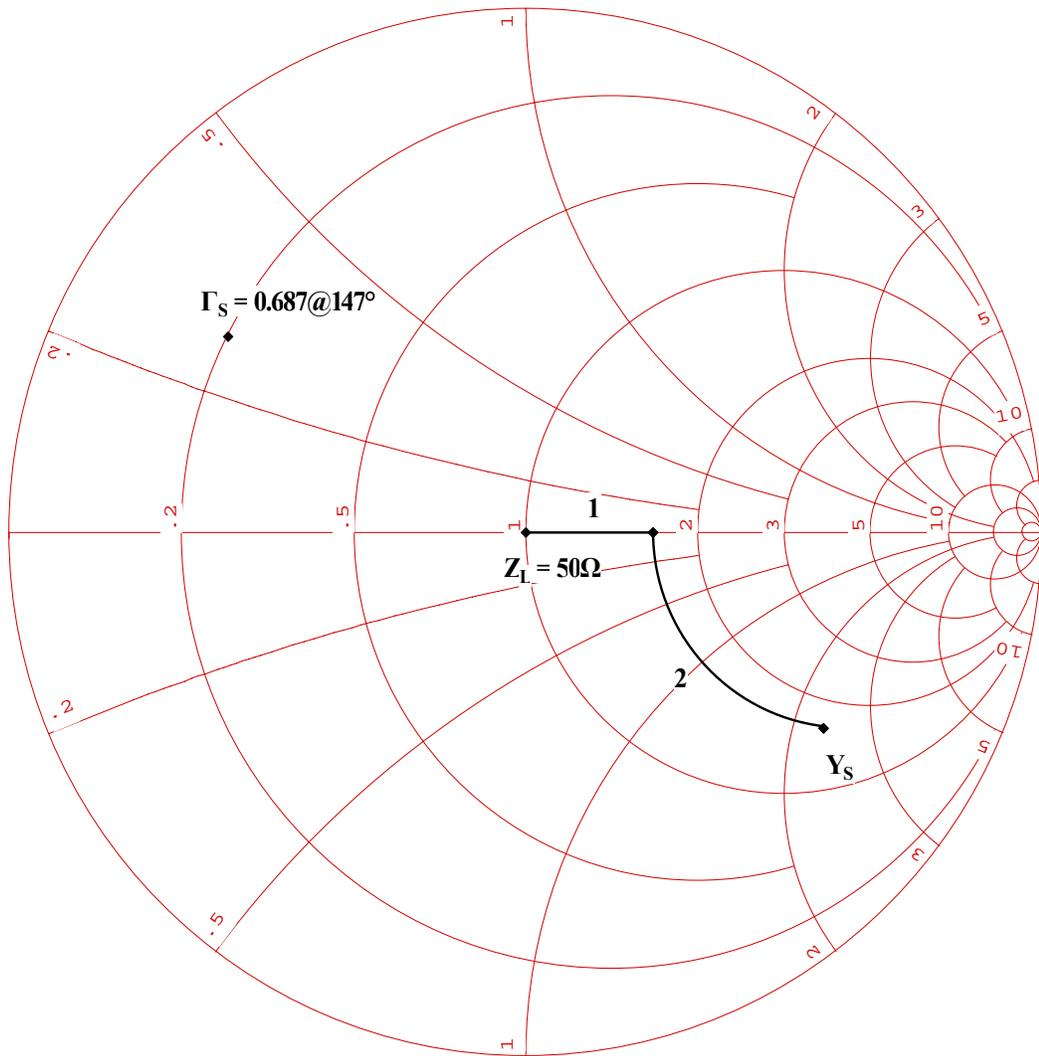
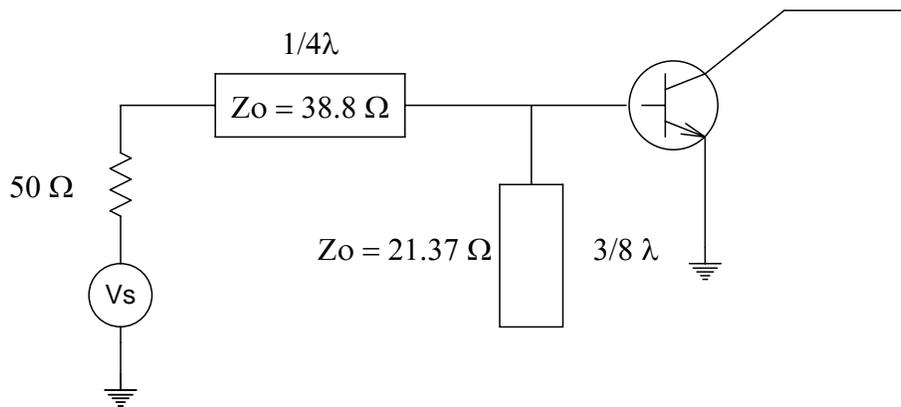
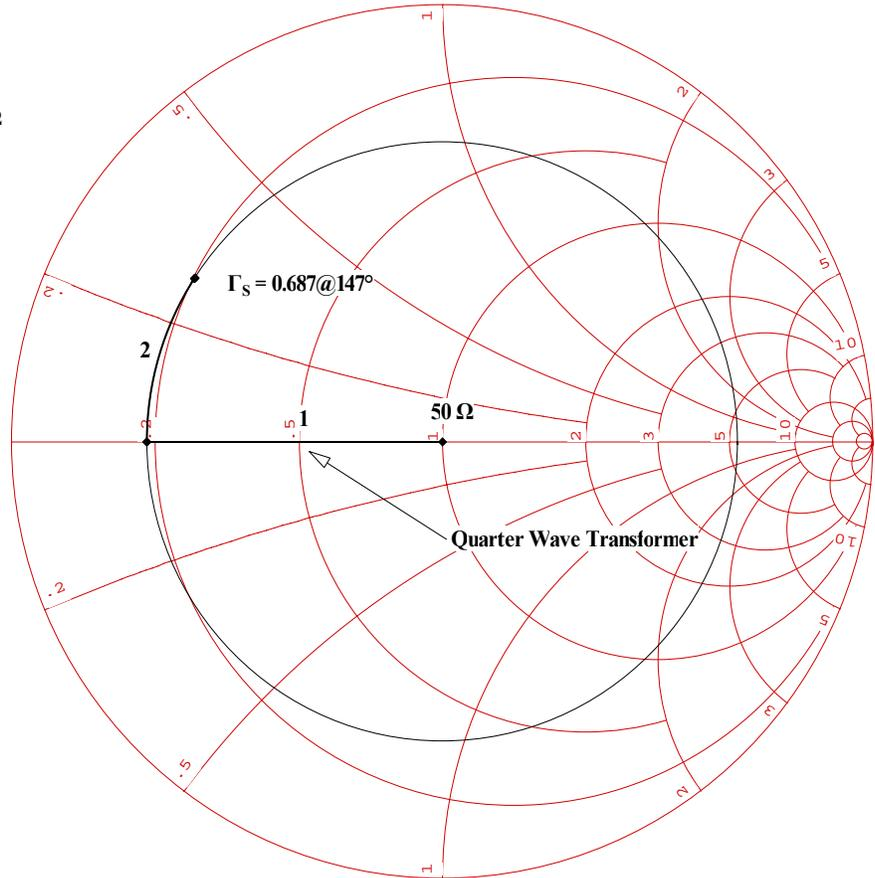

Figure 3.7e
Figure 3.7f
Figure 3.7g
5. Select the **Micro-strip Match... Stub Open Circuit...** dialog procedure, and change the resistance value of the strip to 21.372 ohms. The direction is **Towards -> Generator** (Source) and the *from* point is the admittance point of the 30.13 impedance point as remembered from step 4. Move the cursor down until the cursor is over Y_S and note the *open-Stub=0.375* statement displayed in the upper left-hand corner of the monitor (as expected). The design plot for the Input Matching Network is shown in Figure 3.7e, and the input network circuit for the above design is shown in figure 3.7f.
The design plot for the Input Matching Network is shown in Figure 3.7g, and the input network circuit for the above design is shown in figure 3.7fh